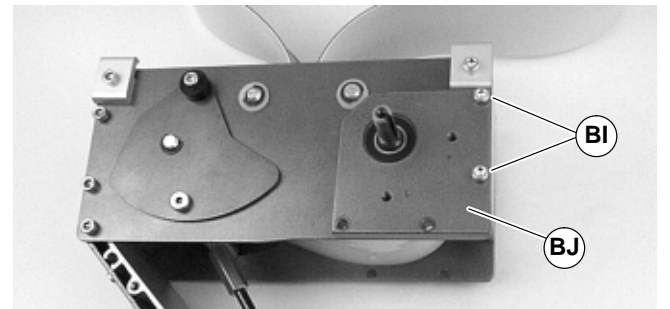
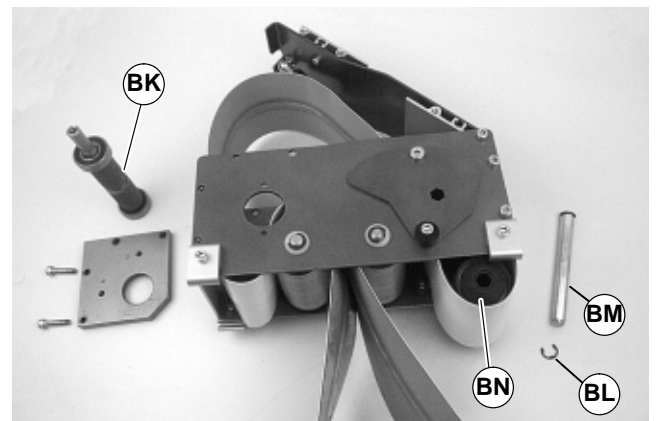
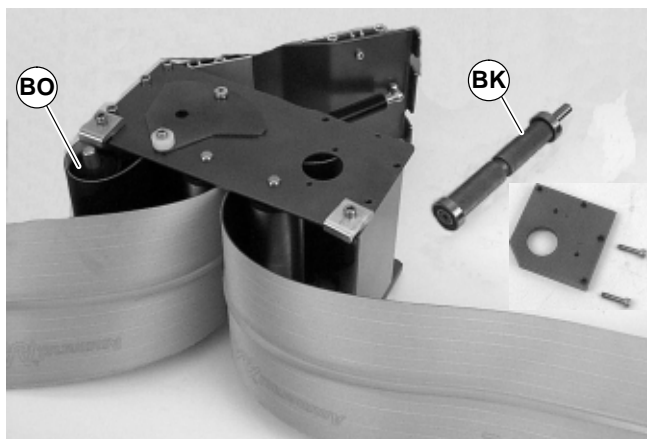

Figure 23
Figure 24
Figure 25
1. Remove drive plate screws (BI of Figure 23). Remove the tension drive plate (BJ).
2. Remove drive pulley (BK of Figure 24).
- For 44 mm, 70 mm or 95 mm wide conveyor, detach E-ring clip (BL of Figure 24). Remove pulley shaft (BM) and remove pulley (BN).
- For 127 mm or wider conveyor, depress both sides of spring-loaded shaft and remove pulley (BO of Figure 25).
3. Place grooved idler pulley (BN of Figure 24 or BO of Figure 25) into the belt loop and install it in the drive module. Refer to “Belt Removal from Center Drive Module” on page 12 and reverse step 3.
4. Place drive pulley (BK of Figure 24 or 25) into the belt loop and install it in the drive module. Refer to “Belt Removal from Center Drive Module” on page 11 and reverse steps 1 and 2. Tighten screws (BI of Figure 23) to 9 Nm.